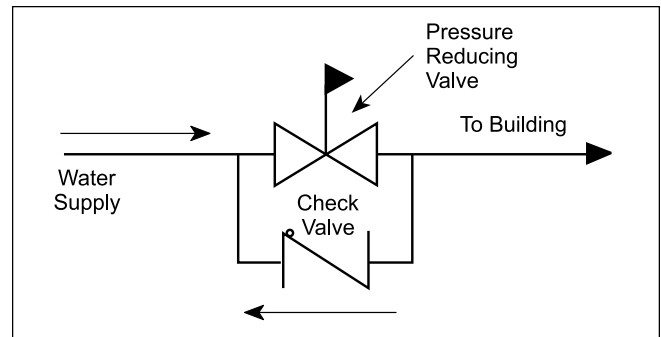

Figure 11. Check Valve/Pressure Reducing Valve Installation.
2. Install a check valve around the pressure reducing valve to permit reverse flow. This will allow the expanded water to back flow into the mains (see Figure 11).